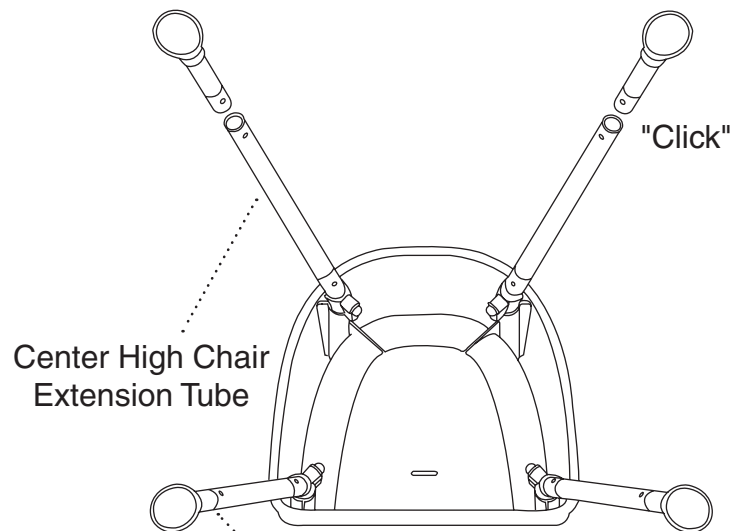

Fig. 14
5. Take all (4) bottom infant / toddler straight extension tubes with feet attached and push into all (4) center high chair extension tubes (Fig 14). Make sure the push buttons, located at the top of every tube, are securely locked "clicked" into place (Fig 14a). To make sure they are securely locked in place pull upward on extension tube.